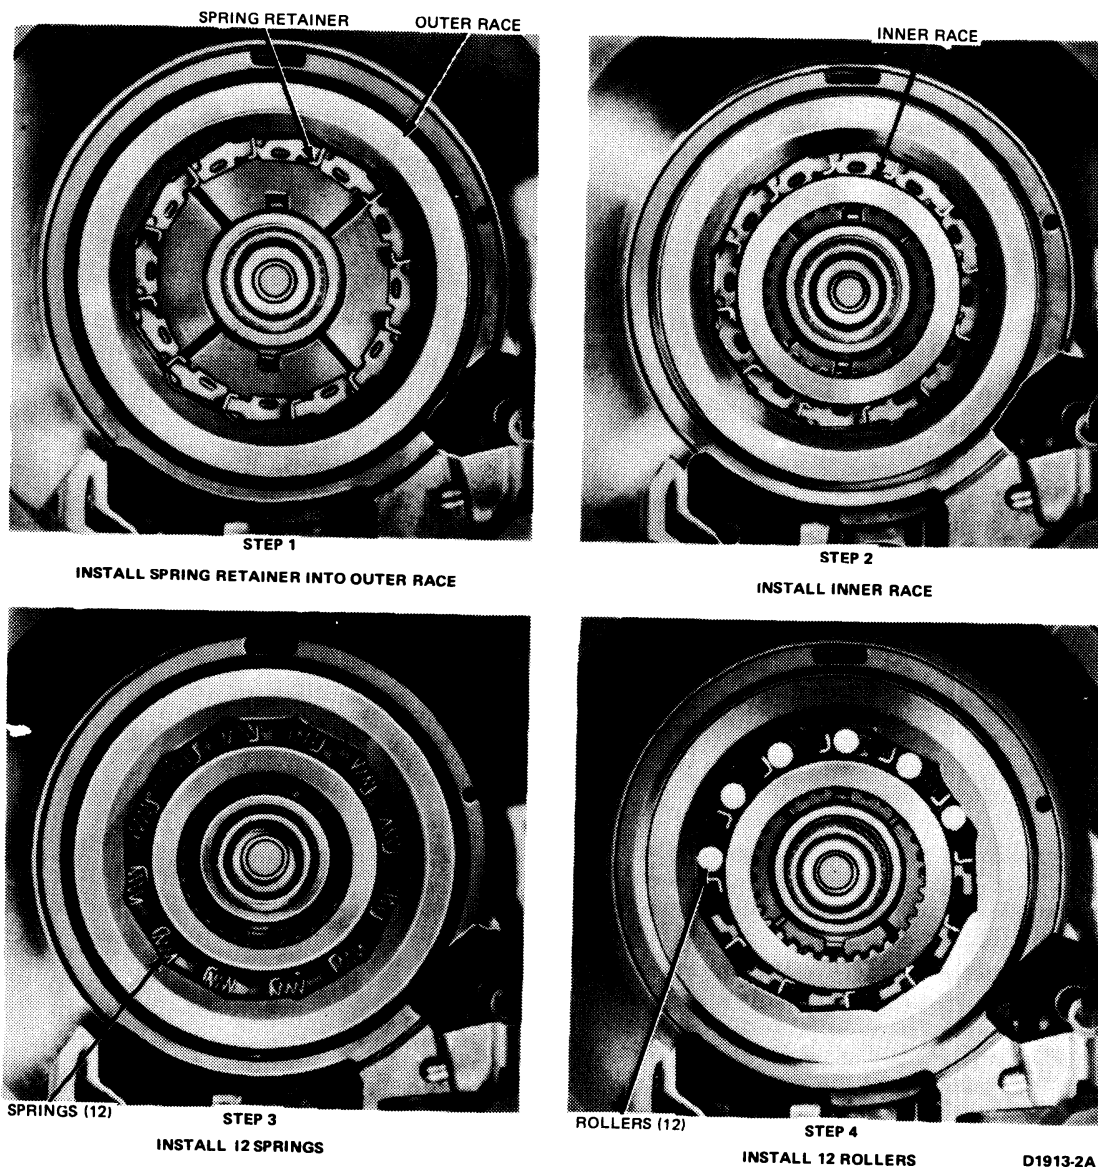

FIG. 38 Installing One-Way Clutch
11. Install the one-way clutch spring retainer into the outer race (Fig. 38). Install the inner race inside of the spring retainer. **Be sure the face with the step is installed toward the rear of the case, mating with the thrust washer.**
12. Install the 12 springs between the inner and outer race as shown in Fig. 38. Install the 12 one-way clutch rollers by slightly compressing each spring and positioning the roller between the spring and the spring retainer. Rotate the inner race clockwise to center the rollers and springs.